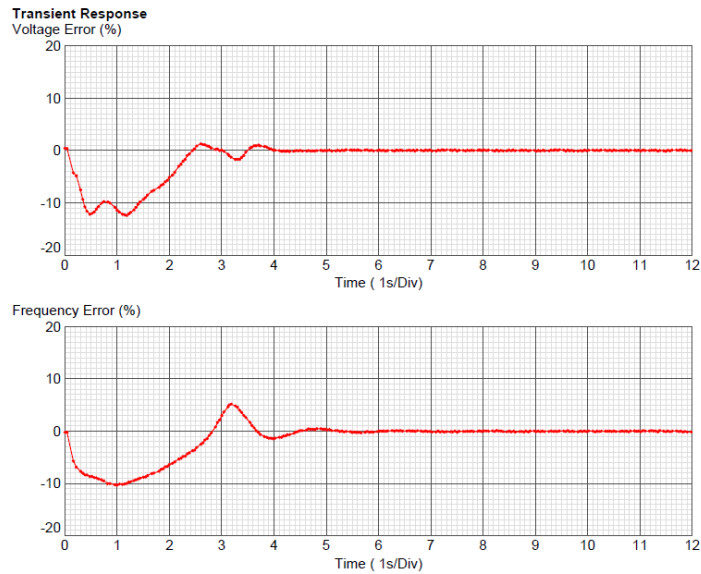

Figure 2 – Electrical Transient Response (Voltage and Frequency reduction under first step transient load application conditions)
Figure 2 below shows the effect of a 60% first-step load application on the output of a generating set in terms of reduction in both output voltage and frequency. Additionally, you will note the time taken for both the voltage and frequency to return to steady-state nominal conditions.
- (5) Figure 2 & 3 - Kohler Power Systems - France